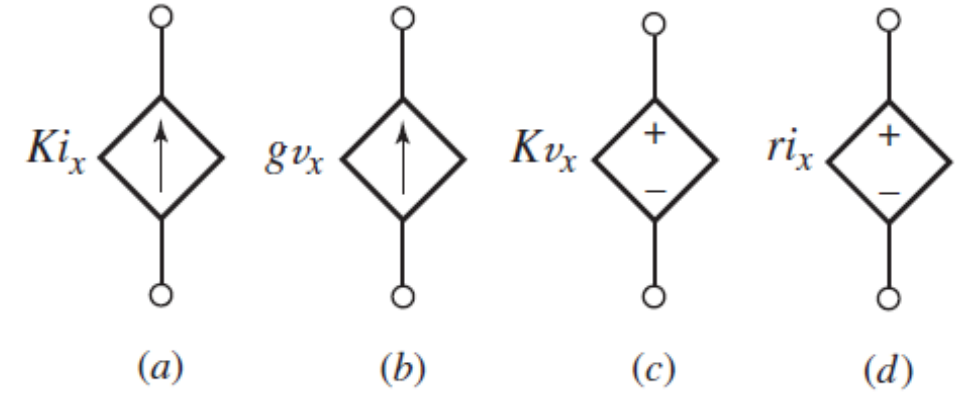

Fig. 4 Circuit symbols for the four different types of dependent sources:
- Fig. 4(d),  $r$  is a scaling factor with units of V/A